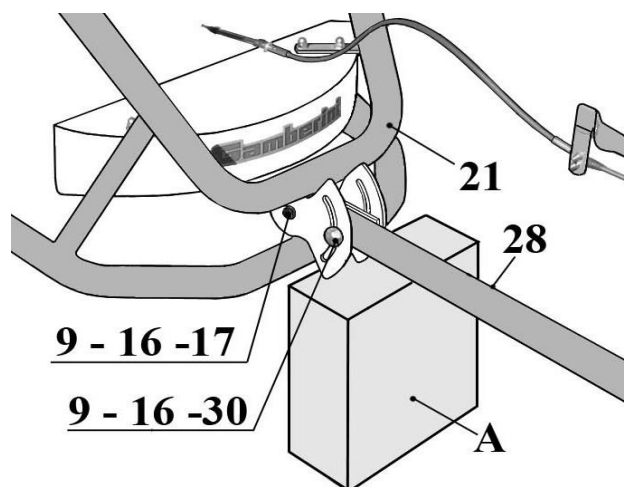

Fig. 2
- using 2 no. 17 keys, loosen the 2 bolts (**16**) and 2 nuts (**9**) securing the drawbar hitch attachment (**28**) to the chassis (**21**). See Fig. 2;